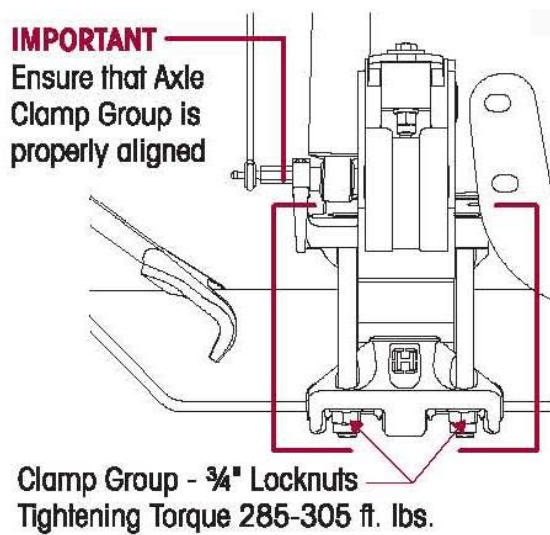

Figure 4
24. Ensure that the clamp group is properly aligned and the hex bolts are seated in the top pad, and the bottom axle wrap is centered on the top axle wrap (see Figure 4).